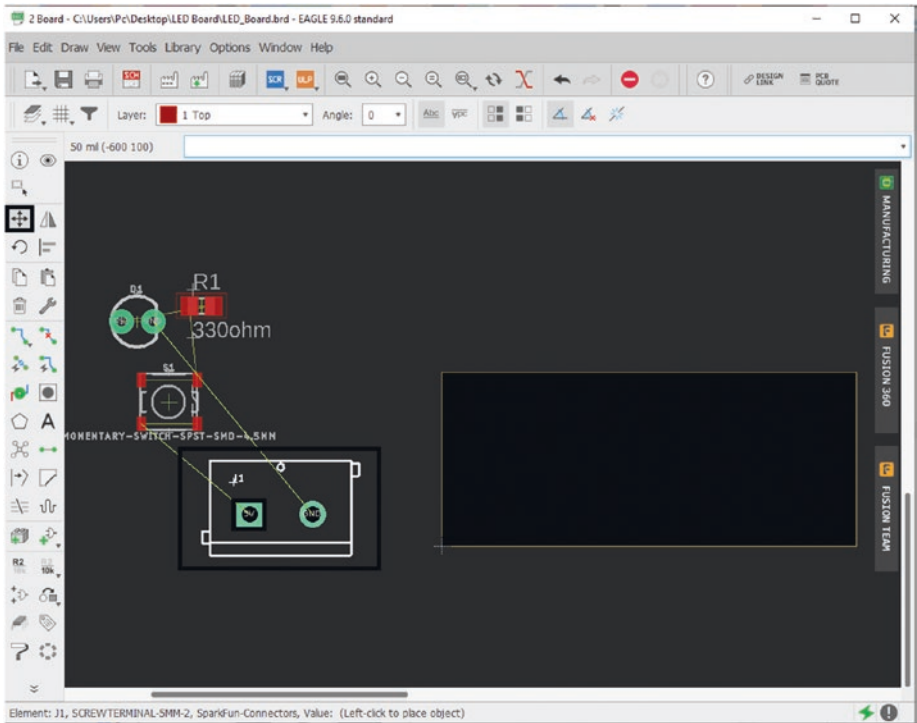

Figure 5-63. Select the “Move” button
12. Click the “Move” button and select the terminal block. See Figure 5-63.